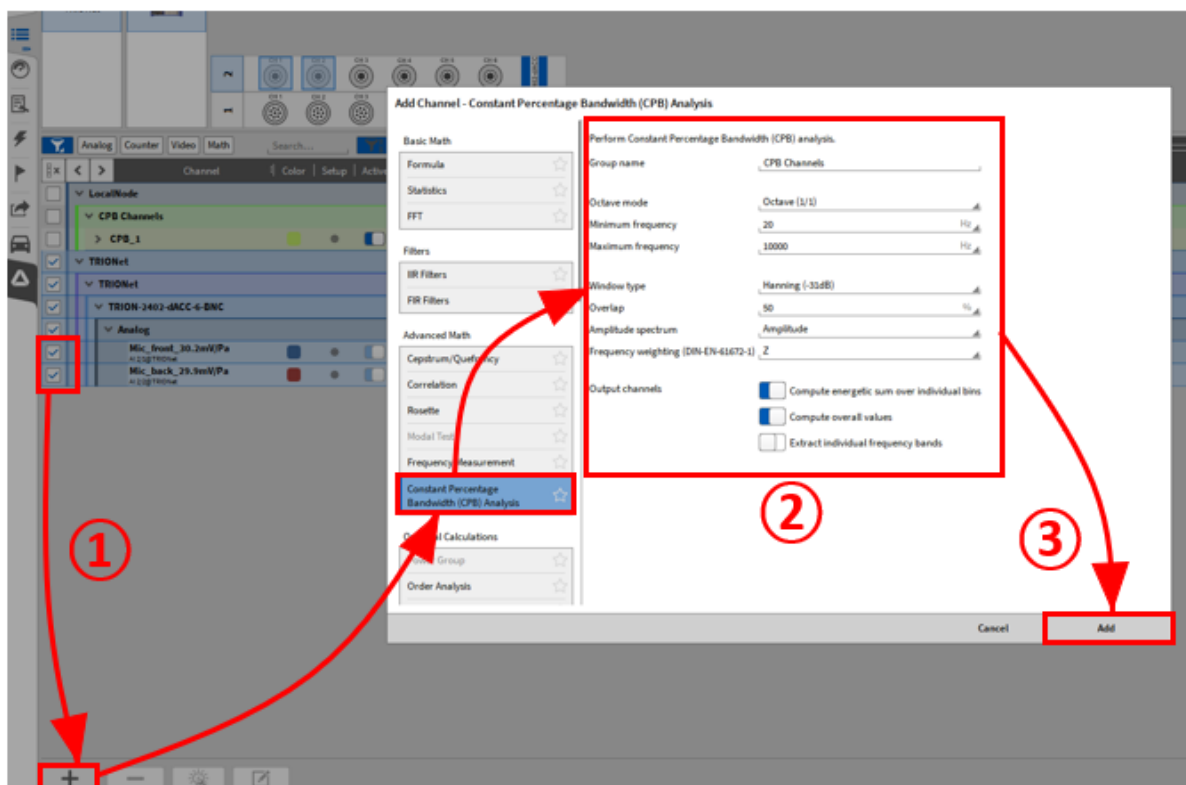

Fig. 7.127: Creating a CPB Analysis
The following options can be selected for a CPB Analysis (see ② in Fig. 7.127):